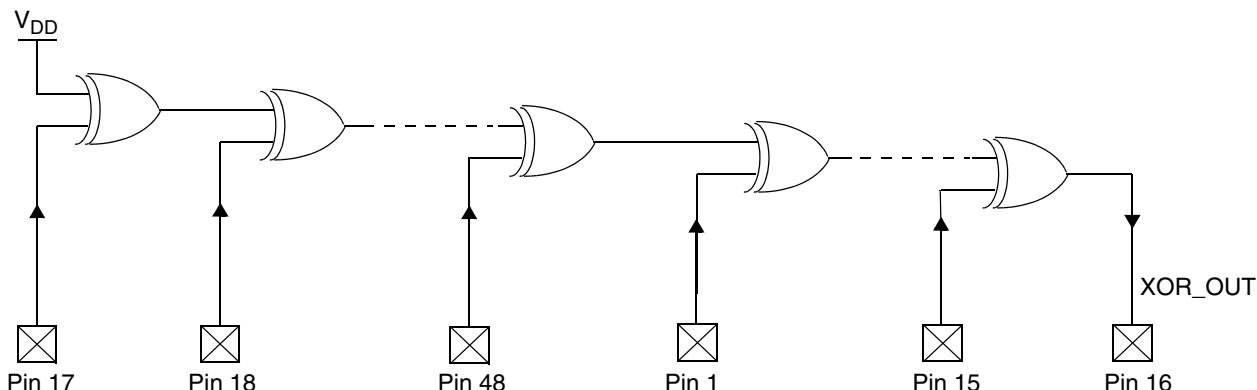

Figure 2. XOR Tree (Simplified Diagram)
In XOR Tree mode, all WPCN381U pins are configured as inputs, except the last pin in the tree, which is the XOR\_OUT output. The input pins are chained through XOR gates, as shown in Figure 2. The power and ground pins (VDD, VSS, VCORF) are excluded from the XOR Tree. During XOR-Tree testing, the Not Connected (NC) pins must be pulled low.